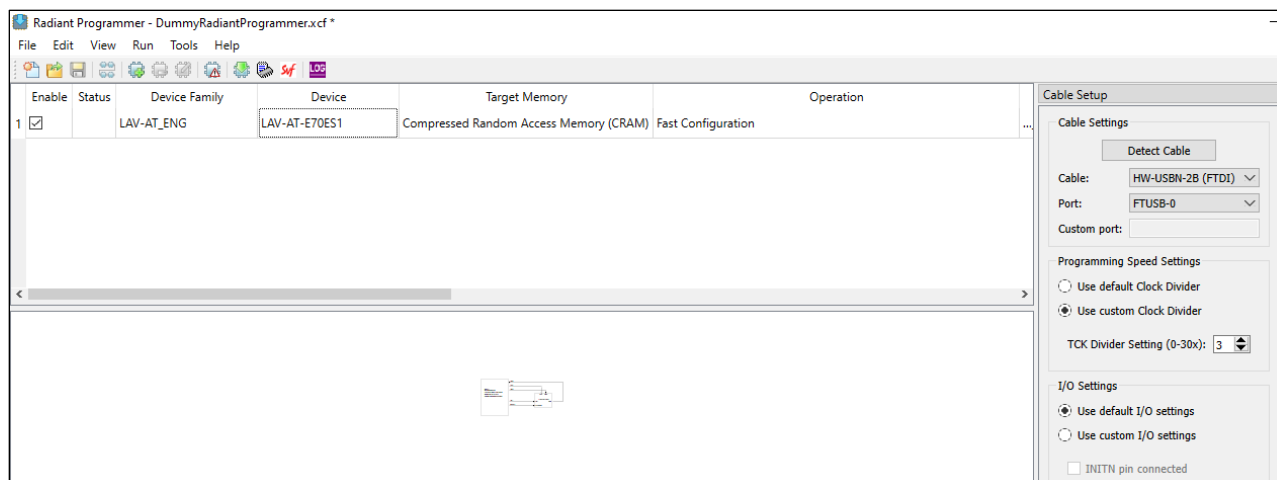

Figure B.4. Radiant Programmer - Device Selection
4. In the Radiant Programmer, select **LAV-AT_ENG** for **Device Family** and **LAV-AT-E70ES1** for **Device** or detect automatically as shown in Figure B.4.